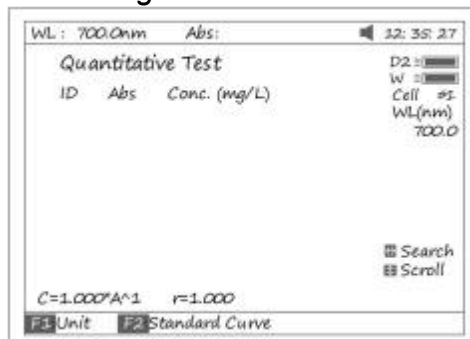
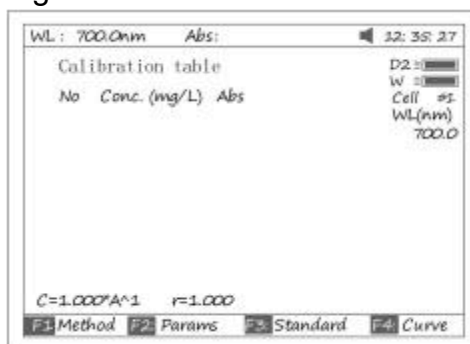
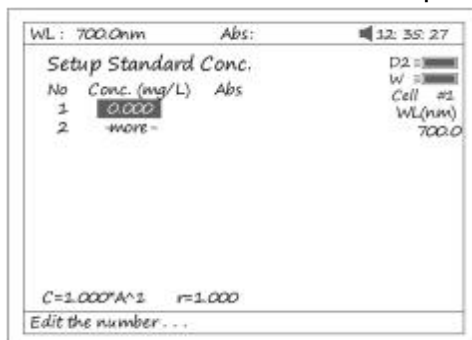

Fig 26
Fig 29
Fig 30
Press **【2】** in Main Menu for “Quantitative” Test (Fig 26). Press **【ESC/STOP】** to exit.
Note: .If no automatic changer installed “cell #1” will disappear in Fig26.
3. Press **【F2】** in Fig 26 for more items to select .See Fig 29.
3.1 Press **【F1】** in Fig 29 to select fitting method. There are 4 methods for you to choose: Linear fit, linear fit through zero, square fit and cubic fit.
3.2 Press **【F2】** in Fig 29 to enter directly a known standard curve. Fig 29A.
3.3 Press **【F3】** in Fig 29 to establish a standard curve by measuring a group of standard samples. See Fig 30.
See 3.2. For Fig 29 enter a known standard curve directly.
Note: All sample results must be taken in screen Fig26.